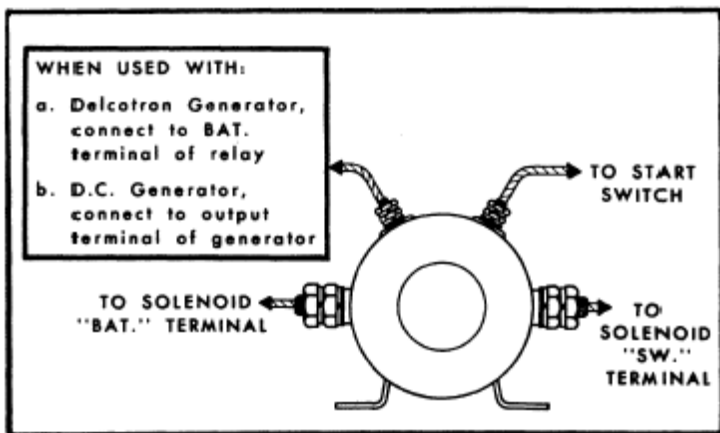

Figure 1
1. Make connections to the magnetic switch (relay) as shown in Figure 1. Do not use the small ground lead.